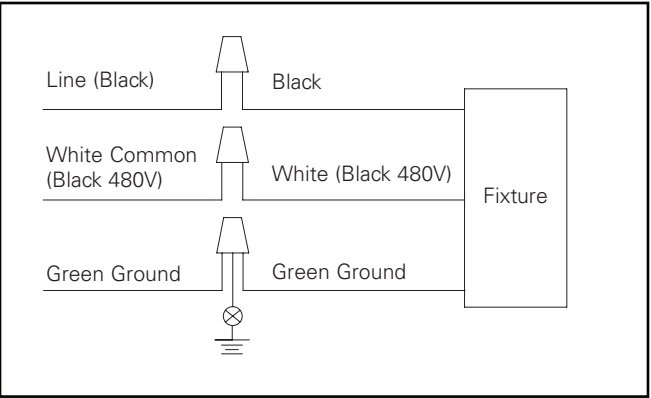

Figure 6.
6. Make wire connections inside the mounting arm. Refer to wire diagram for power connections. Connect the supply wires to appropriate luminaire leads. (Figure 6.)